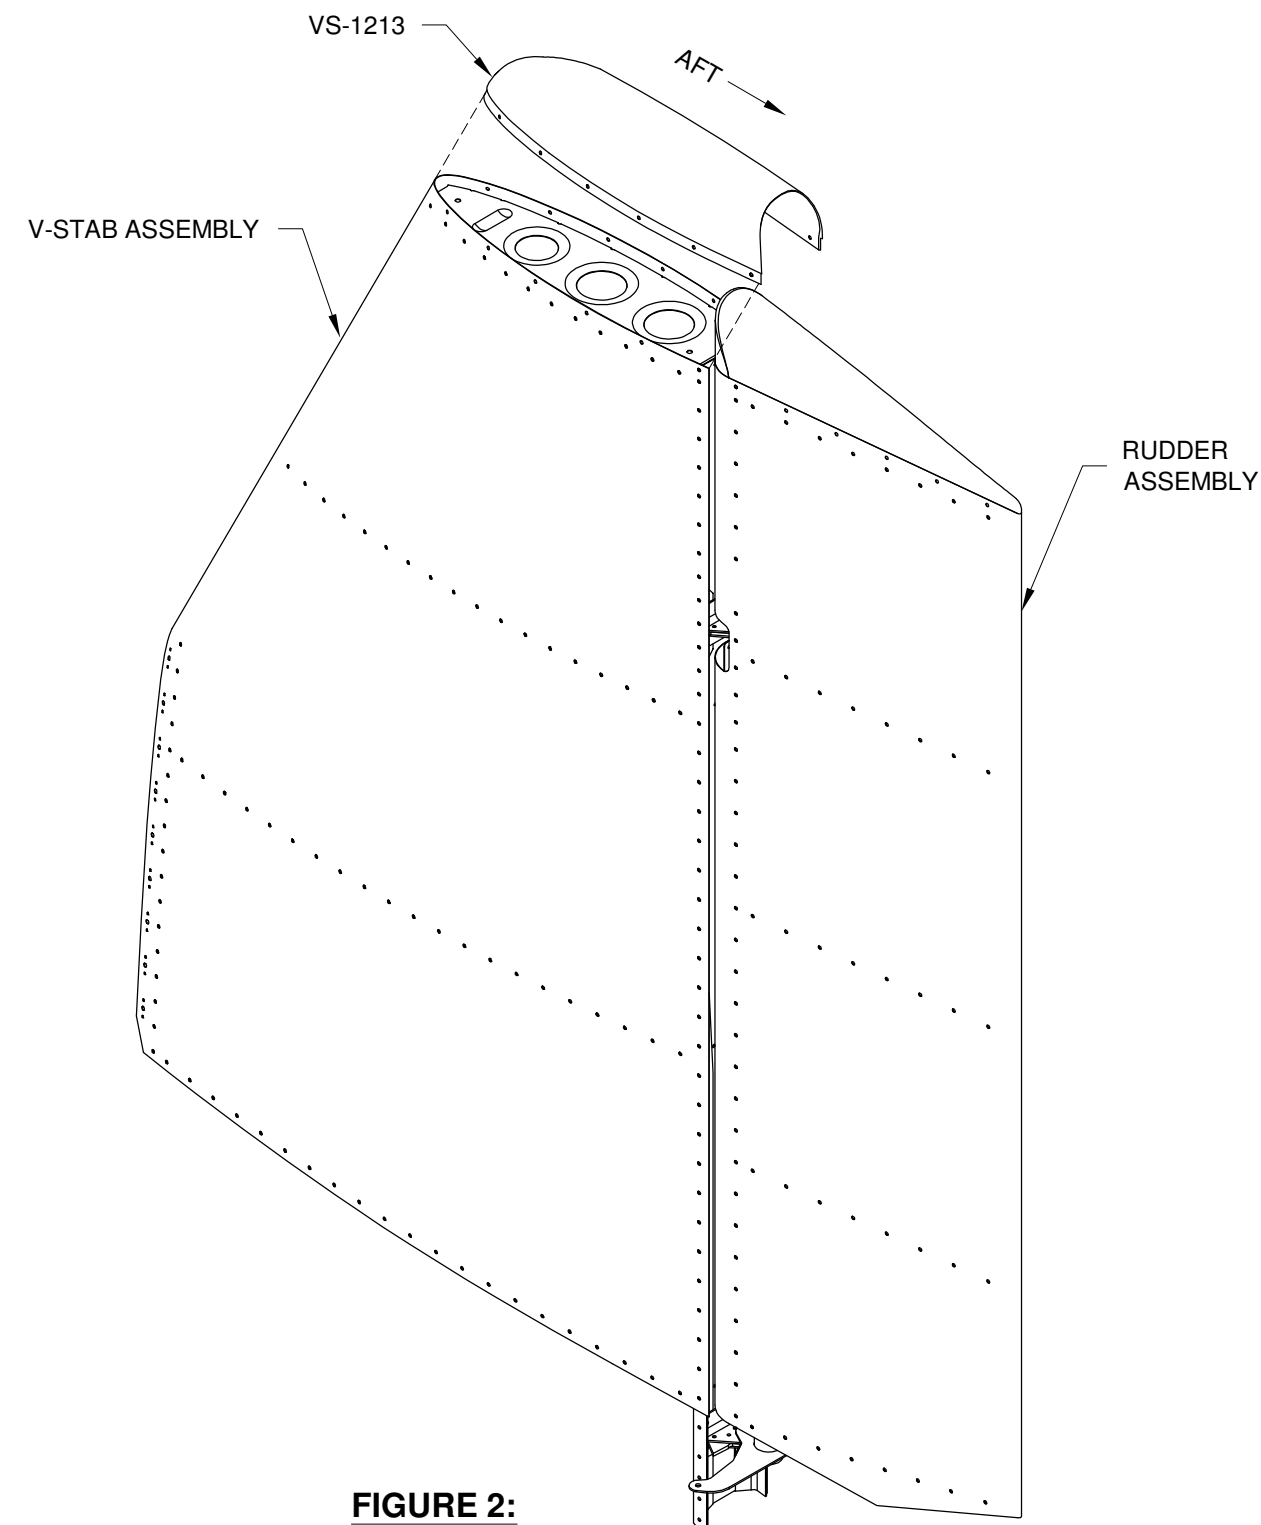

FIGURE 2:
Step 6: Place the VS-1213 V-Stab Tip Fairing in position as shown in Figure 2. Mark the aft edge of the v-stab tip fairing to indicate any material that is within 1/8 of the Rudder Assembly. Remove the fairing, then trim to the marked areas to provide clearance for the Rudder Assembly. Repeat, as necessary, to achieve a minimum of 1/8 inch clearance but not more than 1/4 inch of clearance throughout the Rudder Assembly travel.